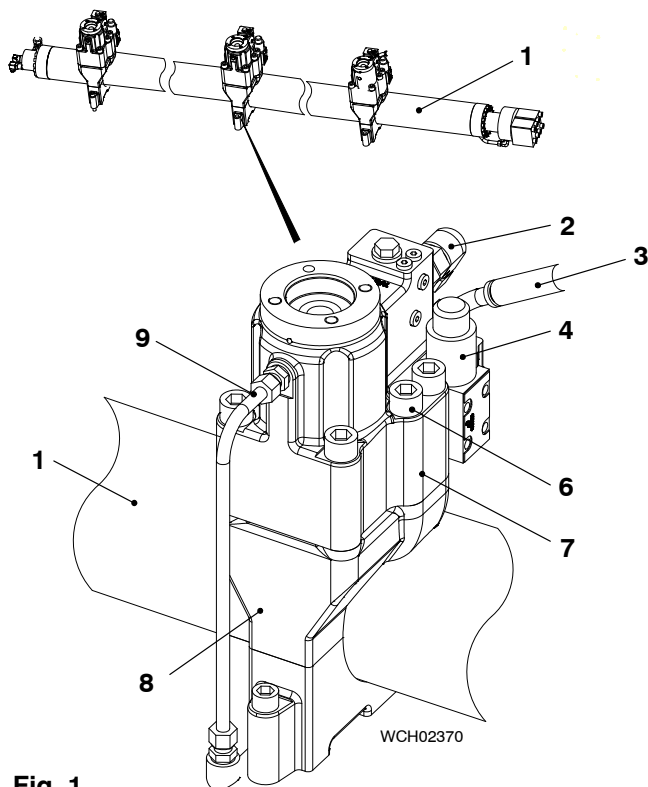

Fig. 1
- 1) Make sure that the servo oil rail (1, Fig. 1) has no pressure.
- a) Remove the HP hose (3) from the VCU (7).
- 3) Disconnect the electrical connection from the 4/2-way solenoid valve (4).
- 4) Remove the return pipe (2) from the VCU (7).
- 5) Remove the supply pipe (9) from the VCU (7).
- 6) Remove the six screws (6) from the VCU (7).
- 7) Carefully remove the VCU (7).
- 8) Put protection over the bore in the holder (8) and the servo oil rail (1).
- 9) Install blanks to the ports on the VCU (7).